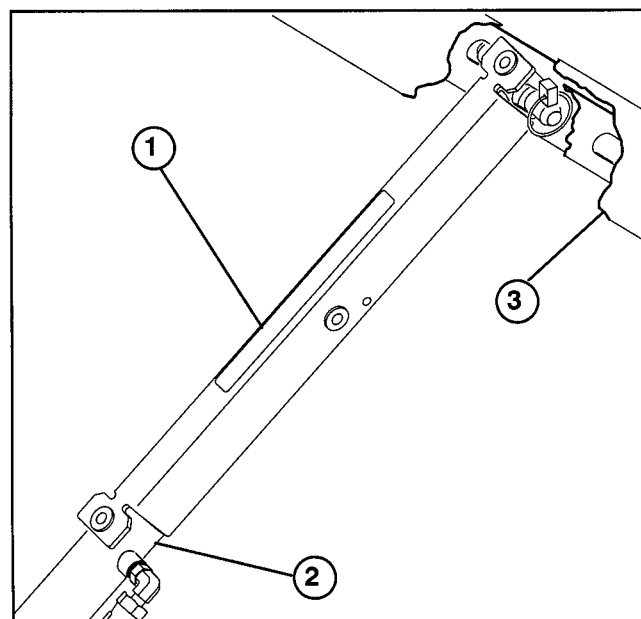

Figure 32
3. Push bed support onto cylinder rod, making sure support end tabs rest on end of cylinder barrel and on cylinder rod end (Fig. 32).